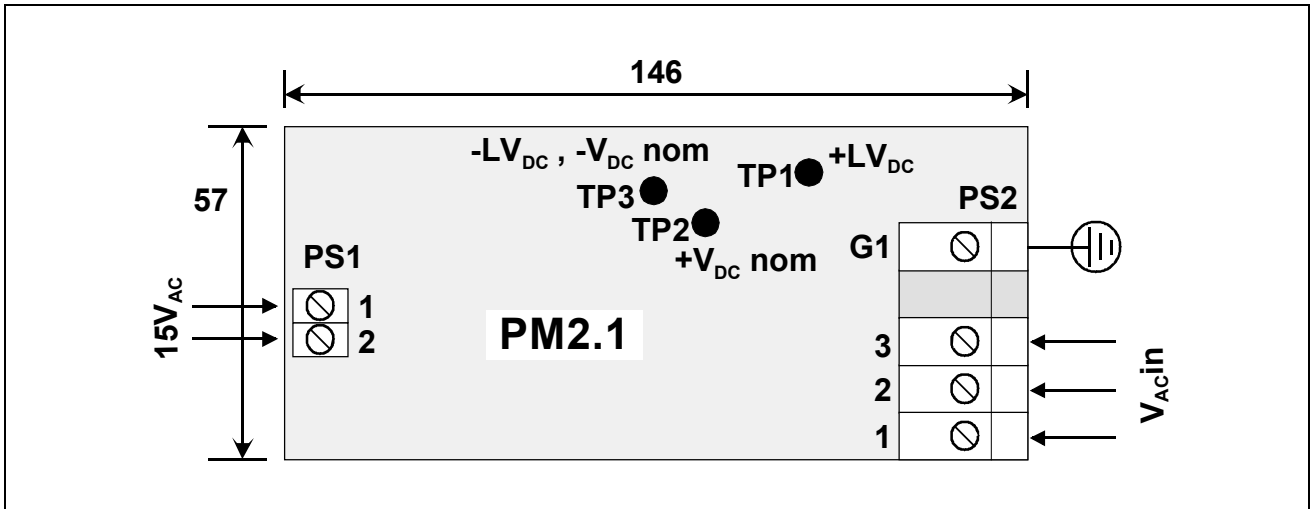

Fig. 6 - SUPPLY MOTHERBOARD REAR VIEW (FROM SCREW CONNECTOR SIDE)
- 8.5 - Motherboard PM2 is a printed circuit board, which is mounted on the rear rails of a 3 units rack. The motherboard holds, on the face towards rack front, a DIN 41612 form D connector (where Power Supply PS03, PS04 or PS06 is inserted) and, on the back face, two screw-type terminals (PS1 and PS2 in fig. 6) PS2 is used for the connection of the secondary winding of the power transformer, where PS1 is used for the connection of secondary 15  $V_{AC}$  winding, when customer needs a 12  $V_{DC}$  voltage for auxiliary purposes. This auxiliary voltage is not necessary for drives operation and therefore connection to PS1 have to be done only if they are needed from the user. The three